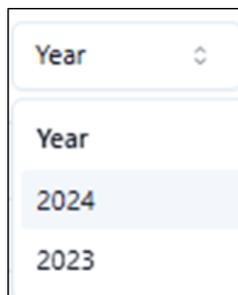

Figure 5 Year filter
- **Year Filter:** Users can select the required year for data display and benchmarking (see Figure 5).